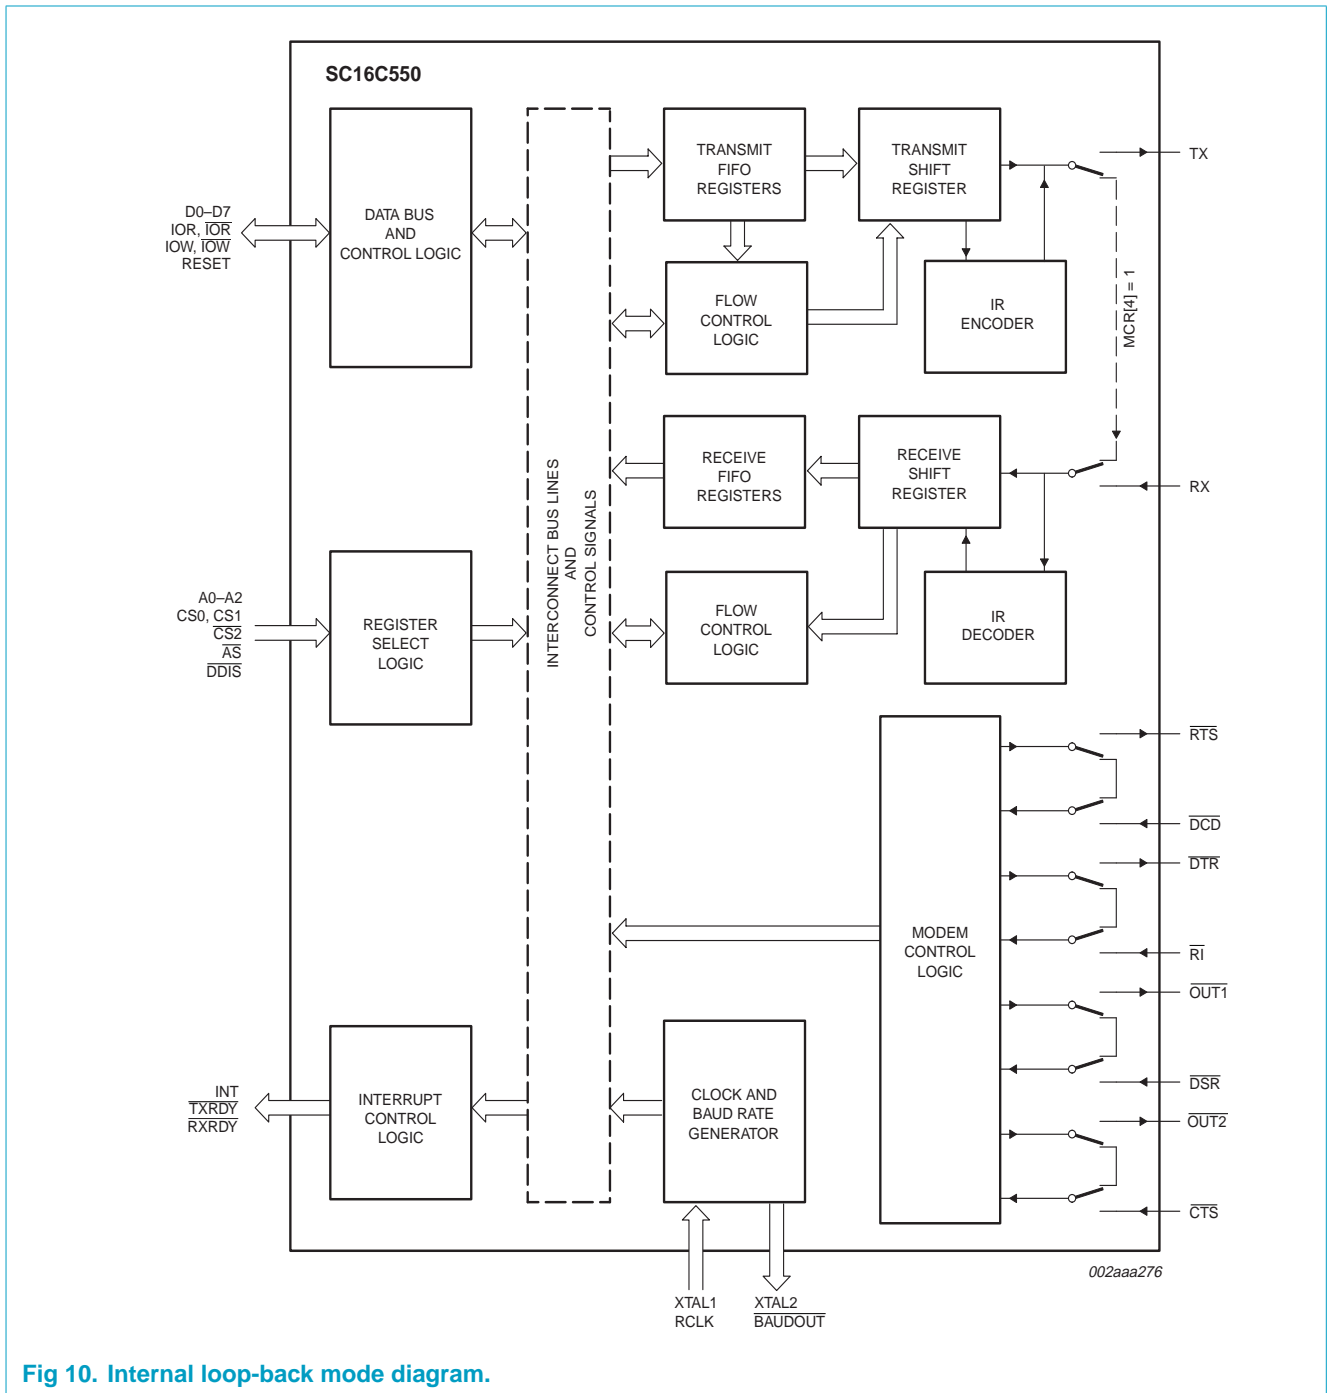

Fig 10. Internal loop-back mode diagram.
The internal loop-back capability allows on-board diagnostics. In the loop-back mode, the normal modem interface pins are disconnected and reconfigured for loop-back internally. MCR[0-3] register bits are used for controlling loop-back diagnostic testing. In the loop-back mode, OUT1 and OUT2 in the MCR register (bits 3-2) control the modem \overline{RI} and \overline{DCD} inputs, respectively. MCR signals \overline{DTR} and \overline{RTS} (bits 0-1) are used to control the modem \overline{CTS} and \overline{DSR} inputs, respectively. The transmitter output (TX) and the receiver input (RX) are disconnected from their associated interface pins, and instead are connected together internally (see Figure 10). The \overline{CTS} , \overline{DSR} , \overline{DCD} , and \overline{RI} are disconnected from their normal modem control input pins, and instead are connected internally to \overline{DTR} , \overline{RTS} , $\overline{OUT1}$ and $\overline{OUT2}$. Loop-back test data is entered into the transmit holding register via the user data bus interface, D0-D7. The transmit UART serializes the data and passes the serial data to the receive UART via the internal loop-back connection. The receive UART converts the serial data back into parallel data that is then made available at the user data interface D0-D7. The user optionally compares the received data to the initial transmitted data for verifying error-free operation of the UART TX/RX circuits.